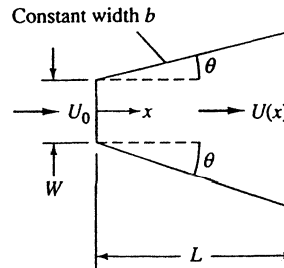

Fig. P7.51
**7.51** Consider the flat-walled diffuser in Fig. P7.51, which is similar to that of Fig. 6.26a with constant width  $b$ . If  $x$  is measured from the inlet and the wall boundary layers are thin, show that the core velocity  $U(x)$  in the diffuser is given approximately by